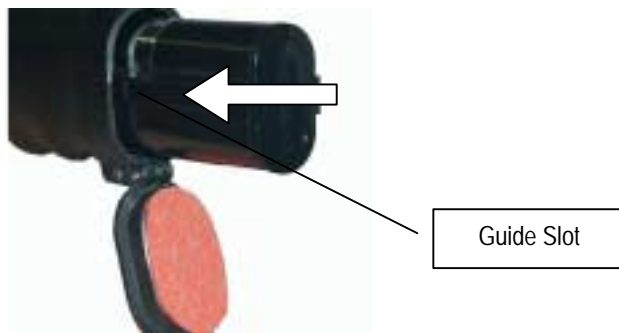

Figure 3
- To insert the charged battery, line up raised rib on the battery with the molded slot in the battery compartment. (See figure 3.)